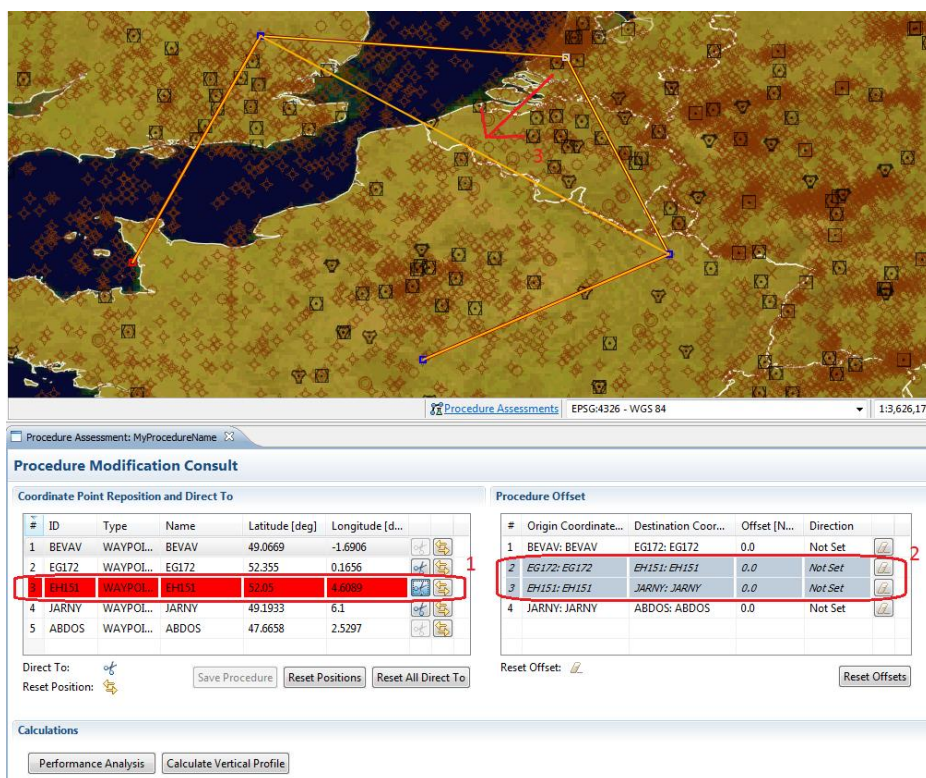

Figure 192: Direct To operation on a coordinate point
Once the user clicks on the  icon (Figure 192), the currently selected coordinate point's row becomes highlighted in **red** (1). Also, the two segments that became unavailable on the new procedure definition are now highlighted in **blue** (2).